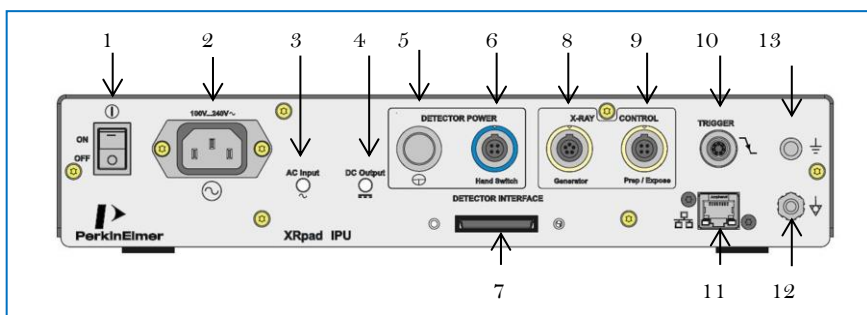

Figure 6 XRpad™ IPU Overview
The **XRpad™ IPU** is a Power Supply Unit with integrated additionally interfaces. The tethered power and communication cable is connected to the **XRpad™ 4336 MED** detector. The communication data are split inside the **XRpad™ IPU** into Gigabit Ethernet Interface, Detector Trigger Interface, Hand Switch and Generator Interface and Detector Push Button Interface. The Gigabit Ethernet Interface of the **XRpad™ IPU** is connected via Cat 5e/6 with the imaging Workstation. The maximum cable length is 30m. The AC cable has to be connected to a properly grounded receptacle. The AC cable is removable and will be plugged to an IEC connector. The **XRpad™ IPU** needs to be connected with a ground by the functional ground connector (Figure 6 (13)) or with the potential of the hospital by the potential equalization connector (Figure 6 (12)) To isolate the equipment electrically from supply mains on all poles simultaneously, the supply mains switch (Figure 6 (1)) must be used.
- **XRpad™ IPU** push button (Figure 6 (5)) (wired mode)